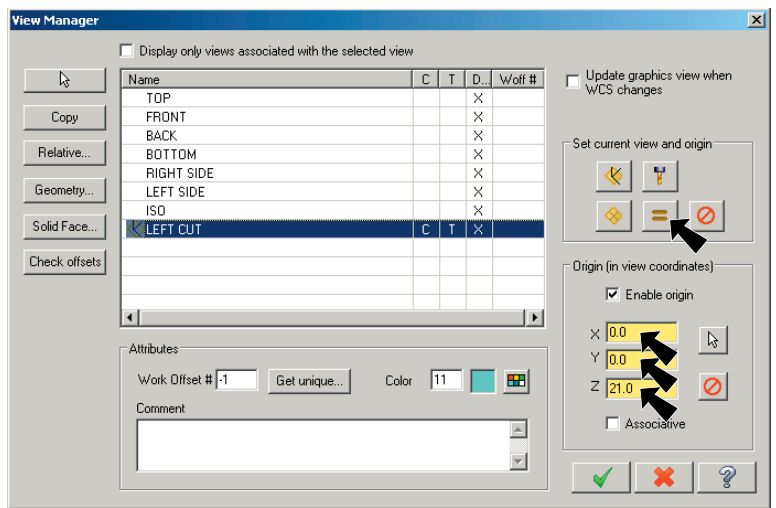

Fig. 57
Origin Z to 21, Fig. 57.
Step 6. Click the **Set All** button , **Fig. 57.**